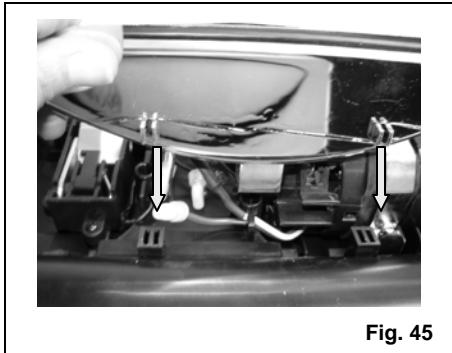

Fig. 45
13. Replace the headlight assembly onto the brush roll cover. (Fig. 45)